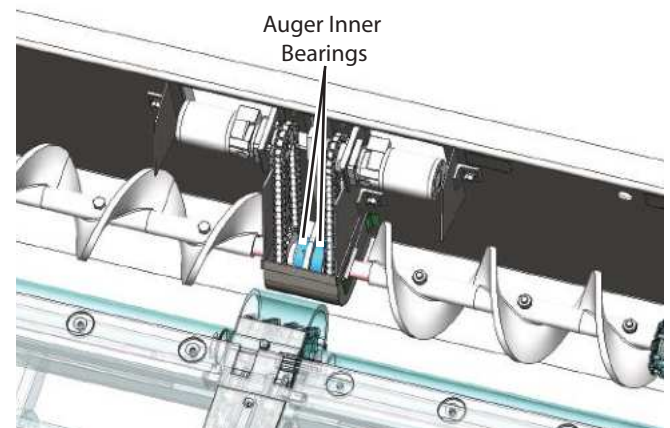

Figure 5-30. Auger Inner Bearings
11. Check inner auger bearings and replace if faulty. **(Figure 5-30)**